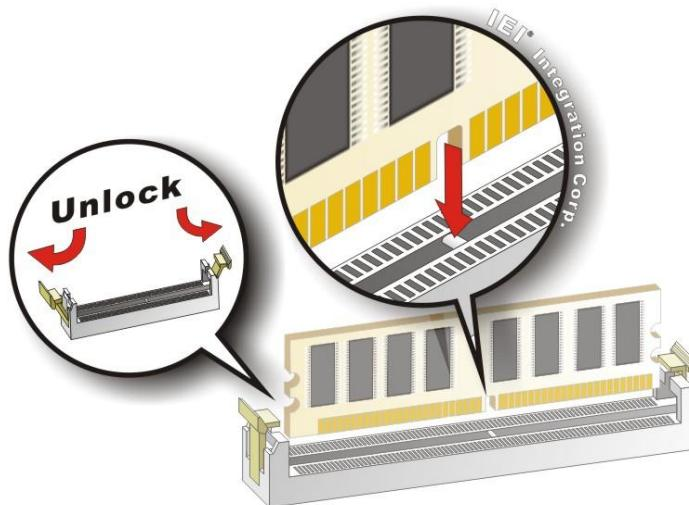

Figure 4-1: DIMM Installation
To install a DIMM, please follow the steps below and refer to **Figure 4-1**.
Step 1: Open the DIMM socket handles. Open the two handles outwards as far as they can. See **Figure 4-1**.
Step 2: Align the DIMM with the socket. Align the DIMM so the notch on the memory lines up with the notch on the memory socket. See **Figure 4-1**.
Step 3: Insert the DIMM. Once aligned, press down until the DIMM is properly seated. Clip the two handles into place. See **Figure 4-1**.